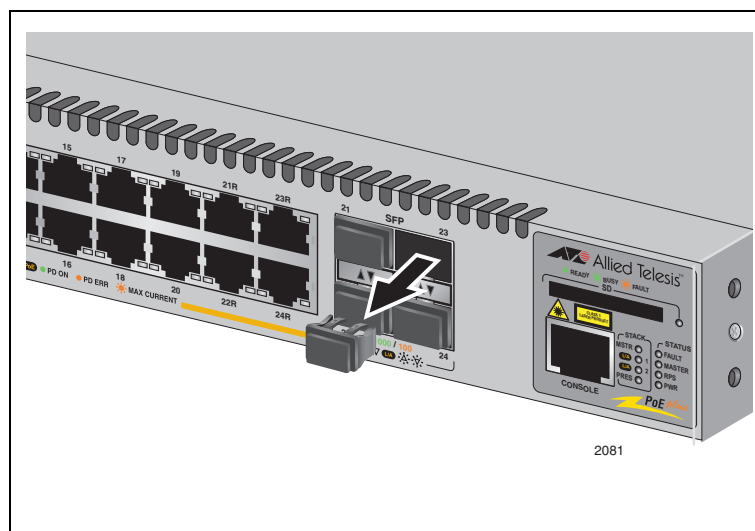

Figure 69. Removing a Dust Plug from a SFP Slot
1. Remove the dust plug from a transceiver slot on the switch, as shown in Figure 69.